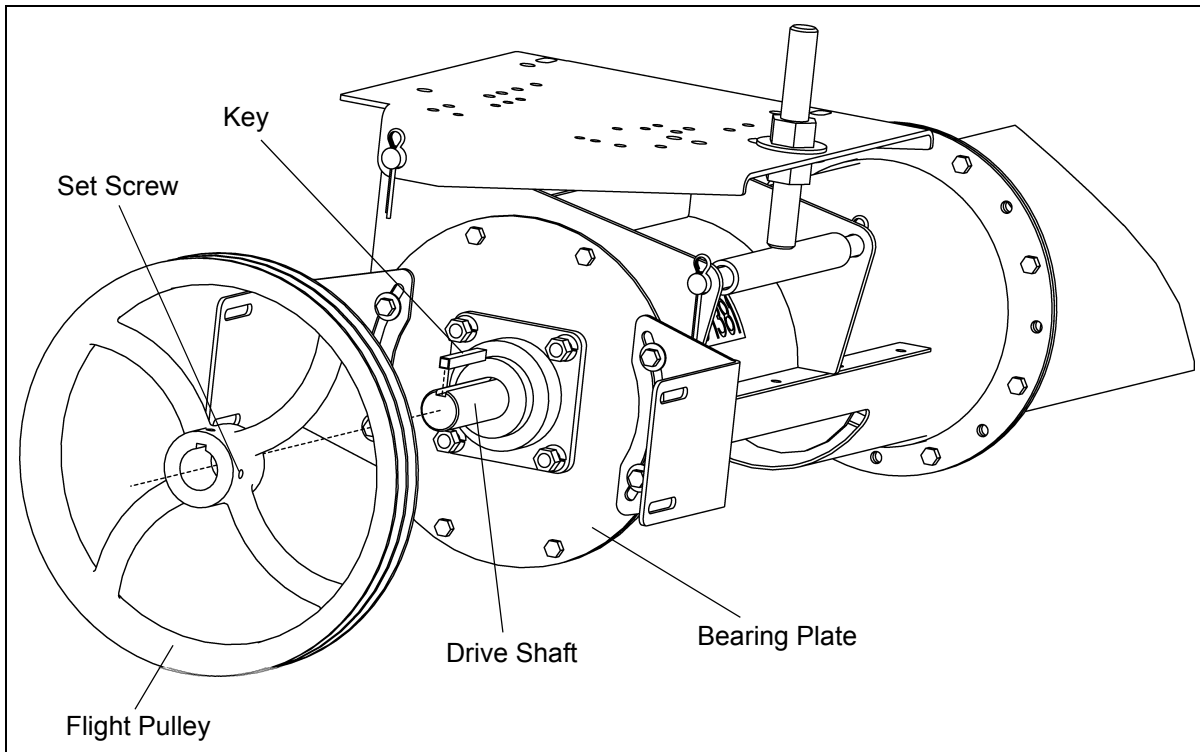

Figure 4S
3. Once the pulley is appropriately positioned, tighten the Setscrew with a hex head wrench to secure it to the drive shaft (*See Figure 4S*).